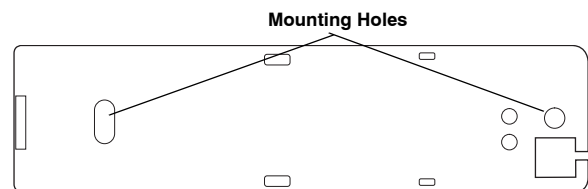

Figure 2. Mounting Hole Locations (Bottom View)
3. Mount the sensor base with two #6 flathead screws at the locations shown in Figure 2. If you need to connect external switches, they should be installed at this point. Use the procedure for connecting external switches.